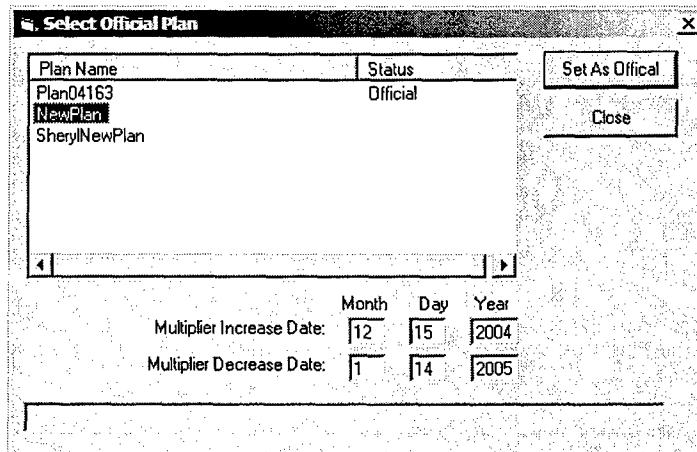

*Figure 32. Message Title for Official Plan*
- Type in a Message Title. This title establishes the naming convention for the Access tables created for the new SRB message (see Figure 32).